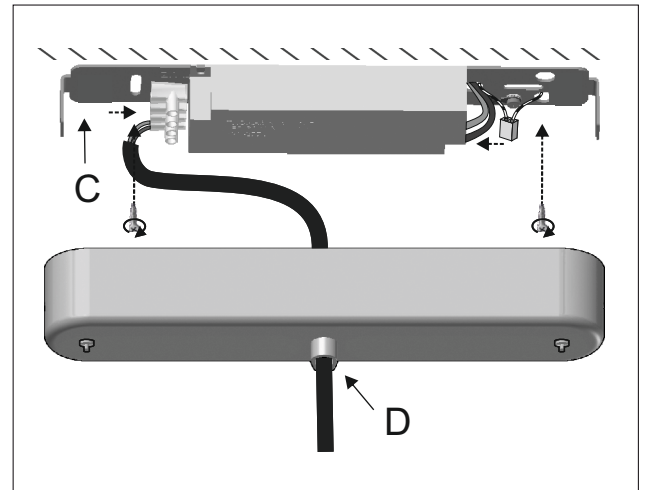

Figure 2
2 - Insert the main electrical cable through the subsection (C). Affix the subsection to the ceiling. Insert the electrical cord through the cable ties (D). Connect the electrical wires. Figure 2.